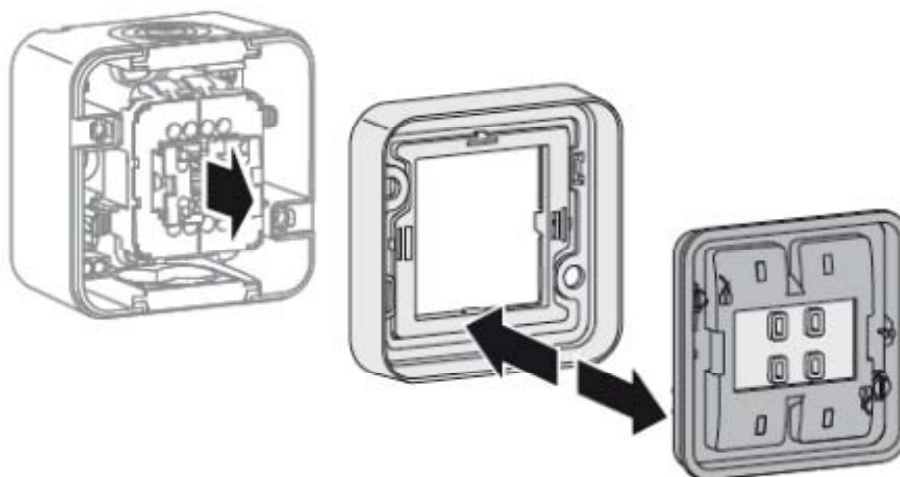

Figure 3
- Detach seal (2) from the frame (Figure 3).